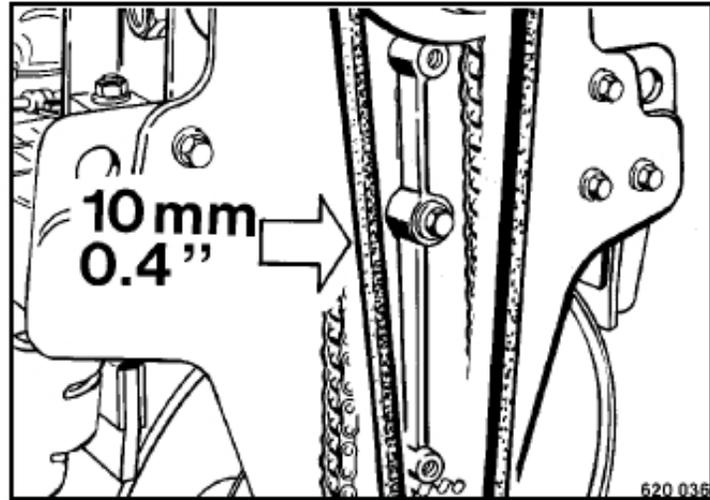

Fig. 41
- 1 Check the condition and tension of the V-belt, change the V-belt if it is damaged (Fig. 41).